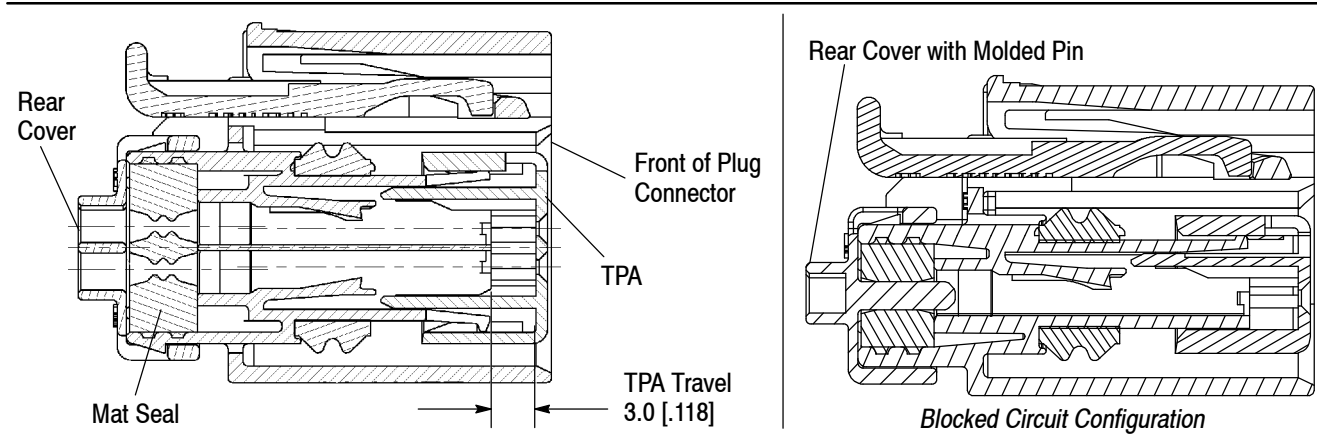

Figure 5
NOTE  The rear of the connector must be completely sealed. Unused circuits are blocked by molding shut the unused terminal opening on the rear cover. A pin molded on the blocked circuit passes through the mat seal to prevent any contamination from entering the seal. See Figure 5. Current blocked circuit configurations can be found on the TE Customer Drawing. New configurations can be obtained by contacting the PRODUCT INFORMATION number at the bottom of page 1.
1. Verify that the TPA is in the pre-staged position (un-locked). Prior to installing the contacts, the TPA and the front of the connector should be almost flush with each other. See Figure 5.